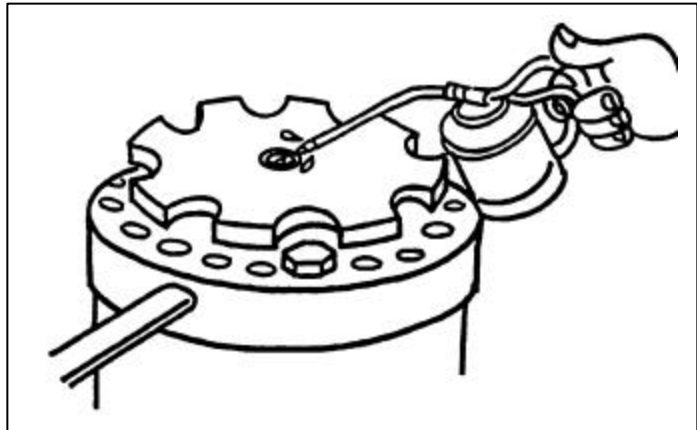

Figure 06-25: Check Accumulator for Leaks
11. Using some oil, verify that there are no nitrogen leaks from the Inflating Screw or on the sides. (Figure 06-25)